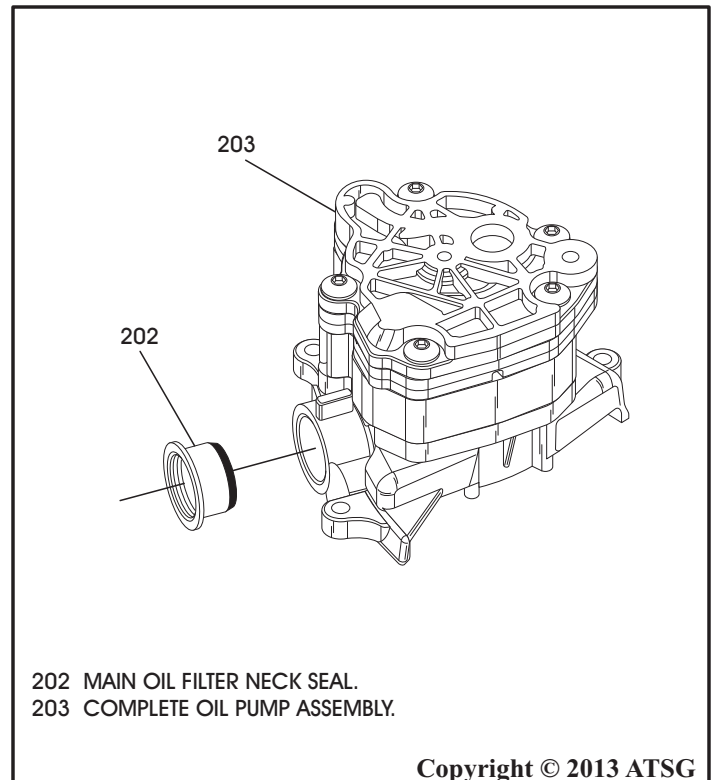

Figure 100
8. Install a new main oil filter neck seal, as shown in Figure 100, using the proper driver.